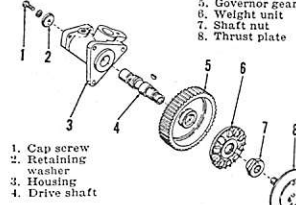

Fig. 74—Exploded view of distributor drive shaft, housing, governor gear and associated parts used on three cylinder models.
79. Fig. 74 shows an exploded view of distributor drive shaft and associated parts. To overhaul the unit, turn camshaft until No. 1 piston is coming up on compression stroke and 12° timing mark is aligned with the dot on flywheel housing at timing window. Remove timing gear cover as outlined in paragraph 68 and governor gear as in paragraph 73. Remove distributor as shown in Fig. 75, rear cover (Fig. 76), thrust washer (Fig. 77), drive shaft (Fig. 78) and housing (Fig. 79).